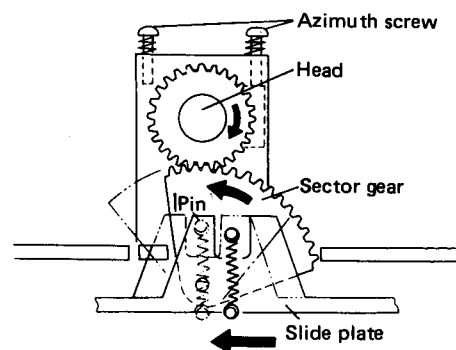

Fig. 1-23 Head rotation operation 1
5. As the slide plate moves from right to left, the head rotates to the REV direction attitude. (Refer to Fig. 1-23)
As the slide plate moves from right to left in the direction operation (described above), the pin on the sector gear also is forced from right to left. This is shown in Fig. 1-23. As the sector gear pin goes past the center point, the force of the gear spring rotates the sector gear through approximately a 90° angle. This causes the head meshed to sector gear to rotate 180°, placing the unit in a REV state.